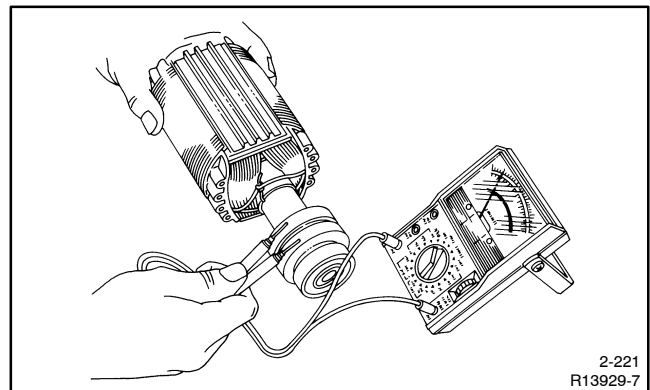

Figure 5-7 Rotor Resistance Check
5. Check the rotor for continuity and resistance. Raise the brushes from the slip rings while performing ohmmeter tests. Measure the rotor resistance (ohms) between the two slip rings; see Figure 5-7. See Section 1.5 for rotor resistance readings. If the resistance readings are low, perform a megohmmeter test on rotor as described in the next step.